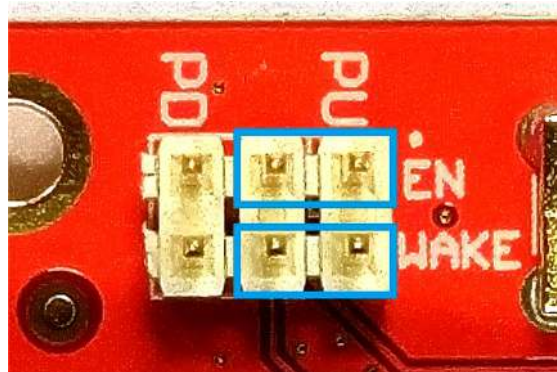

Figure 4. Enable and Wake Control
- Place shunt in 'PU' position at EN header shown in Figure 4
- Figure 4 shows the shunt position for the PHY in ENABLED mode
- Place shunt in 'PD' position at EN header shown in Figure 4
- Place shunt in 'PU' position at WAKE header shown in Figure 4
- Figure 4 shows the shunt position for the PHY in WAKE mode
- Place shunt in 'PD' position at WAKE header shown in Figure 4